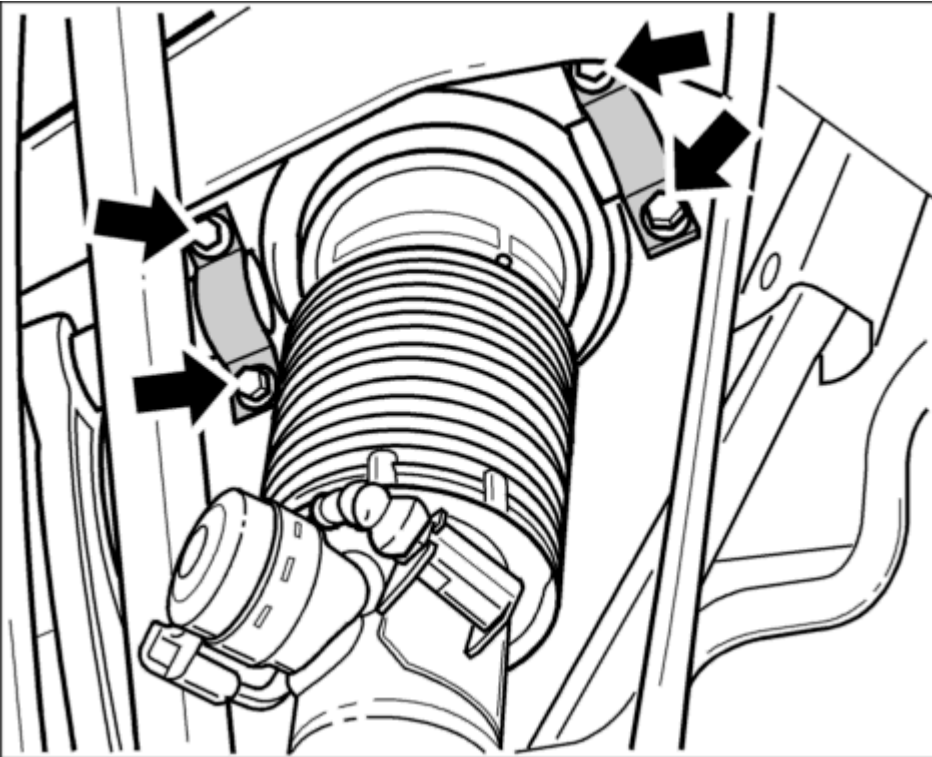

Fig. 73: Spring strut fastening screws (top)
2. Fit the four fastening screws -**arrows**- . See **Fig. 73**.